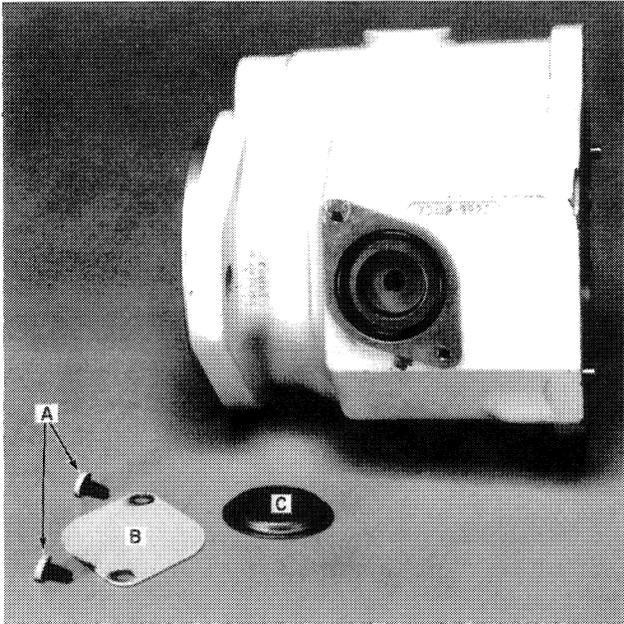

FIGURE 4-16
- b. Remove O ring cover, C, O ring, D, and washer, E, Figures 4-16, 4-17 and 4-18.